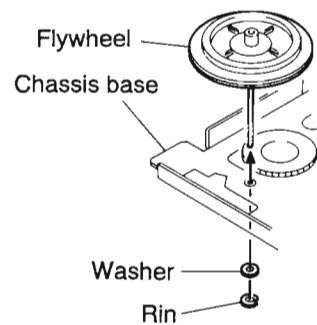

Fig. 5-33
8. Remove the washer and ring attached to the capstan shaft as shown in Fig. 5-33.